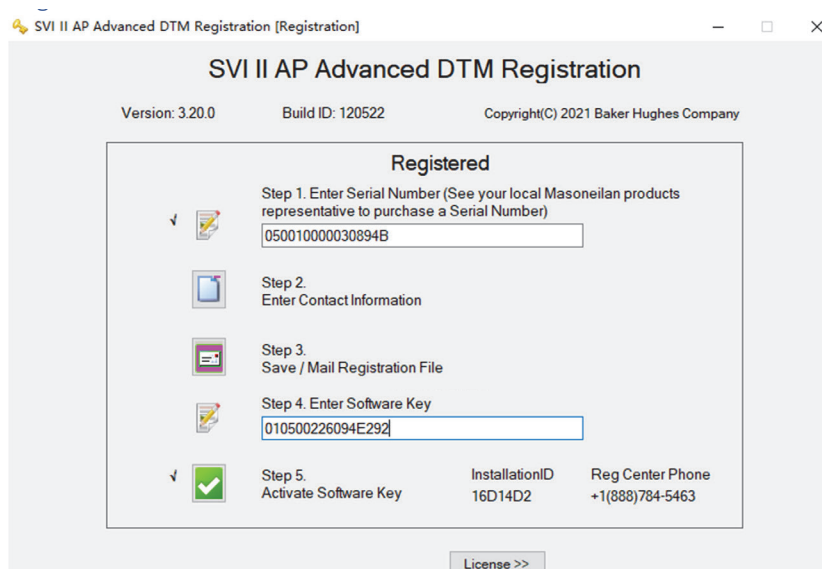

Figure 11 - DTM Registration-Registered
2. Click  and Figure 11 appears.